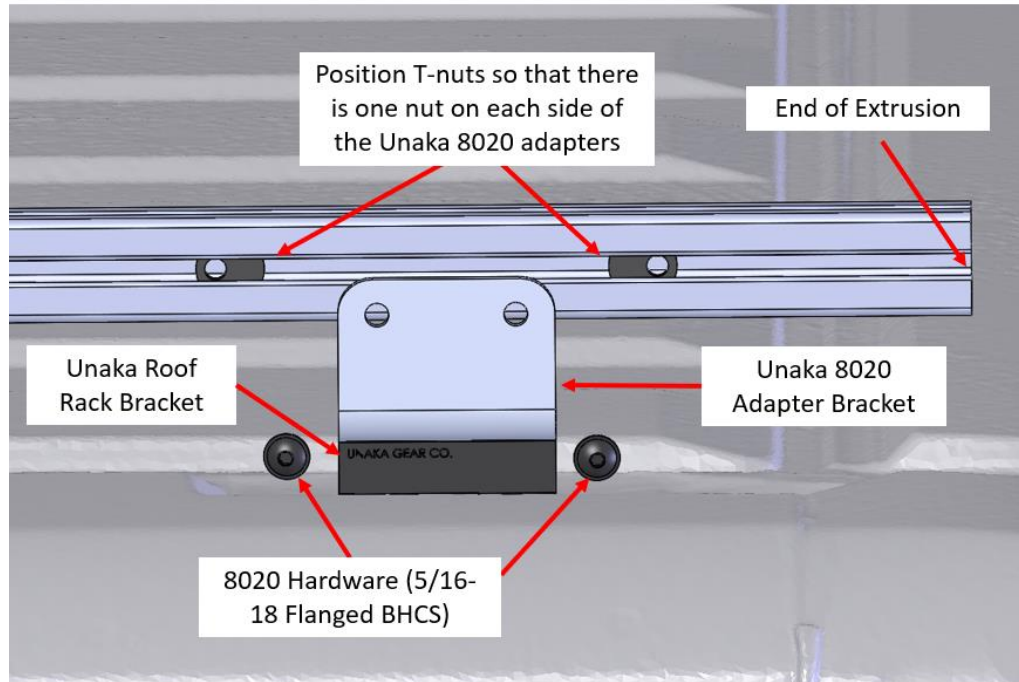
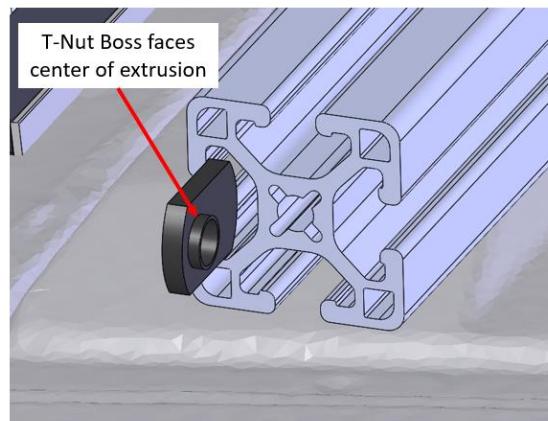

Figure 6: Unaka 8020 adapter hardware installation
Figure 7: 8020 T-Nut Installation
3. Pick a t-slot in the extrusion (typically the top or the side closest to the adapters). Slide 2 x T-nuts into the extrusion for each 8020 adapter you will be bolting to. Space the T-nuts so they are 2" to 3" outside of the 8020 adapter profile on each side, Figure 6. This will allow you to slide them into place when you are ready to insert the hardware. We typically place the long end of the t-nut towards the center of the bracket. Note 8020 specifies the boss on the t-nut should be facing the middle of the extrusion as shown in Figure 7.